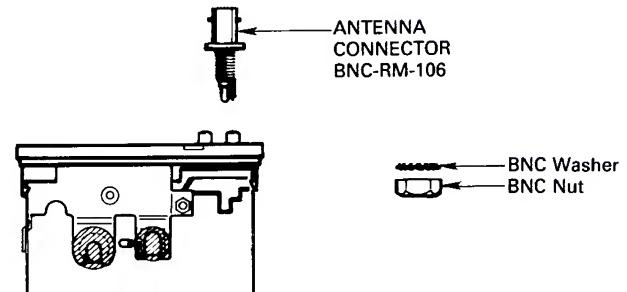

Fig. 5-2-2
2. Remove the BNC Nut and the BNC Washer as shown in Fig. 5-2-2.